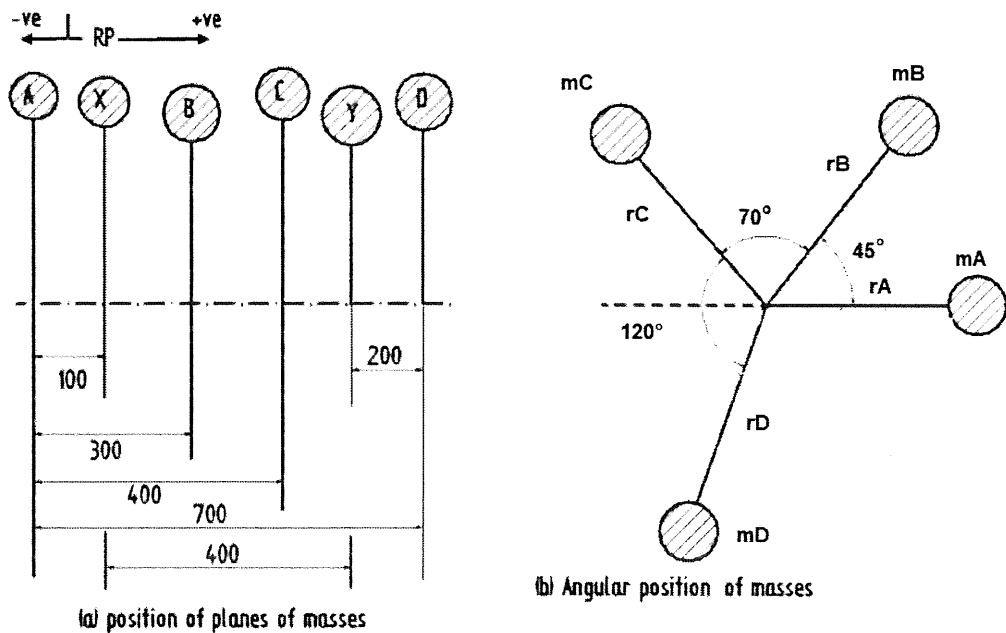

Figure 1
- a) Figure 1 shows a shaft carries four masses A, B, C and D of magnitude 200 kg, 300 kg, 400 kg and 200 kg respectively and revolving at radius 80 mm, 70 mm, 60 mm and 80 mm in planes measured from A at 300 mm, 400 mm and 700 mm. The angles between the cranks measured anticlockwise are A to B 45° , B to C 70° and C to D 120° . The balancing masses are to be placed in planes X and Y. The distance between the planes A and X is 100 mm, between X and Y is 400 mm and between Y and D is 200 mm. If the balancing masses revolve at a radius of 100 mm, solve their magnitudes and angular positions. (7 marks)